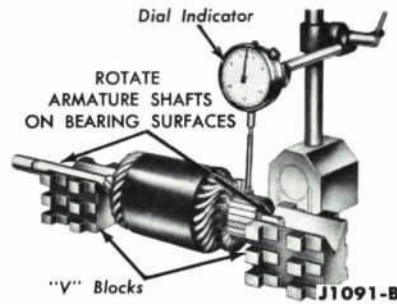

FIG. 48—Commutator Runout Check
- 3. Check the commutator runout (Fig. 48) and, if necessary, turn down the commutator.
Check the commutator runout as shown in Fig. 48. If the surface of the commutator is rough or more than 0.002 inch out-of-round, turn it down.